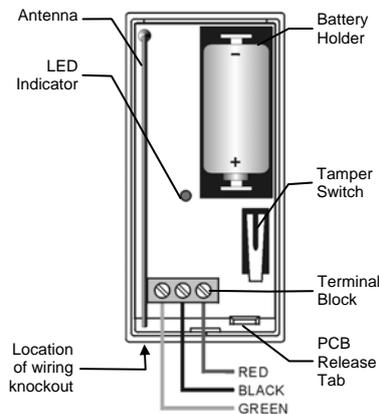

Figure B- 29: EL-2661 Transmitter (Cover Off)
13. Connect the sensor's cable to the terminal block as shown in Figure B- 29 (p. 112).